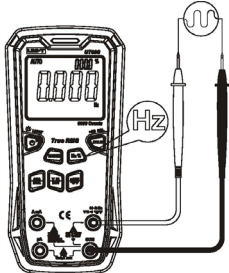

Figure 6
8. Frequency Measurement (Figure 6)